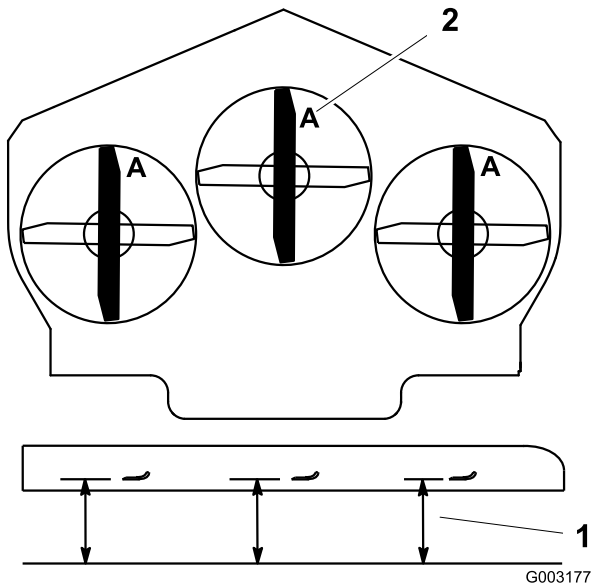

Figure 80
3. Rotate the blades until the ends face forward and backward (Figure 80). Measure from a level surface to the cutting edge, position **A**, of the blades (Figure 80). Note this dimension.